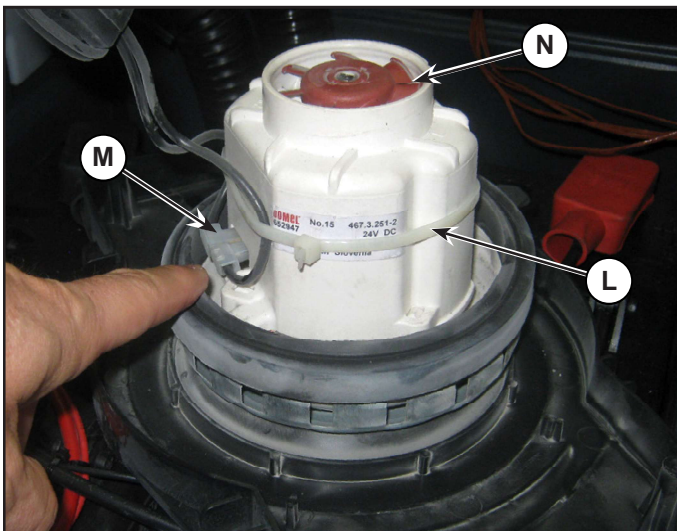

Figure 10:
12. Cut the strap (L) and disconnect the power supply (M) (Figure 10).
13. Remove the motor (N).